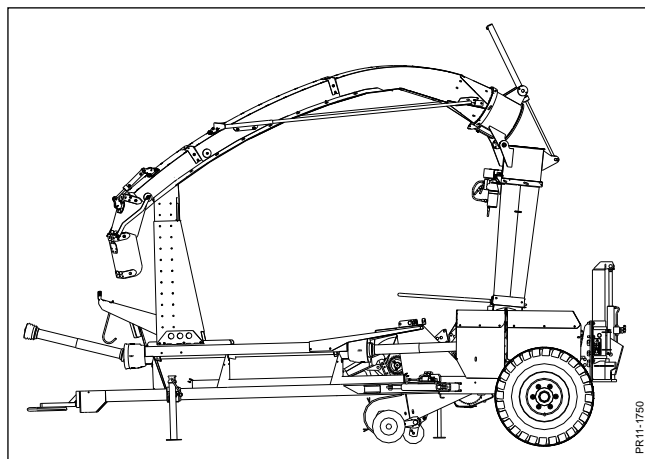

Fig. 3-13
**Fig. 3-13** The machine can be fitted with a chute that permits loading of very high trailers. This chute must be folded down during transport, so that it rests on a stand on the drawbar. This reduces the transport height to less than 4 metres. The chute is collapsed by a hydraulic cylinder that is controlled from a toggle switch on the front of the control box in the driver's cab. The chute is operated electro-hydraulically with the joystick and toggle switch on the control box. Move the drawbar into the transport position, turn the chute into position above the stand and fold it down until it rests on the stand.